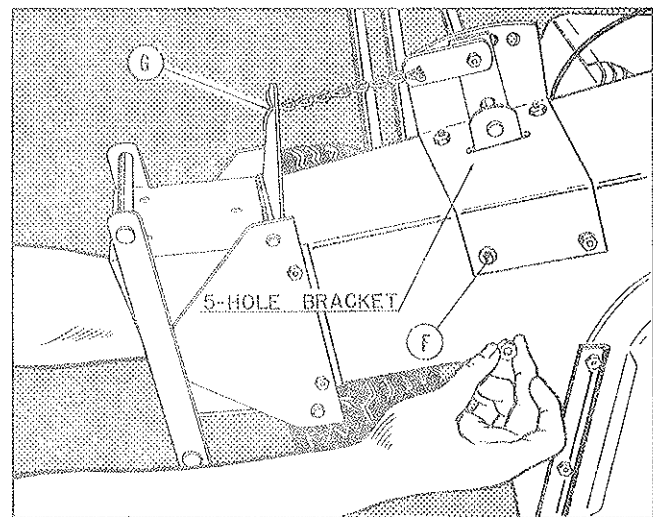

Fig. 4
8. Position the 5-hole bracket assembly onto fiberglass housing (see Fig. 4) and line up holes in bracket with holes in fiberglass.
9. Pick up a bolt and insert hand into air discharge opening. Bring end of bolt out at Point F, Fig. 4, and add washer and nut. Repeat operation for other three holes and tighten nuts.
10. Insert cotter pin on end of chain through hole at Point G, Fig. 4, and bend ends back.